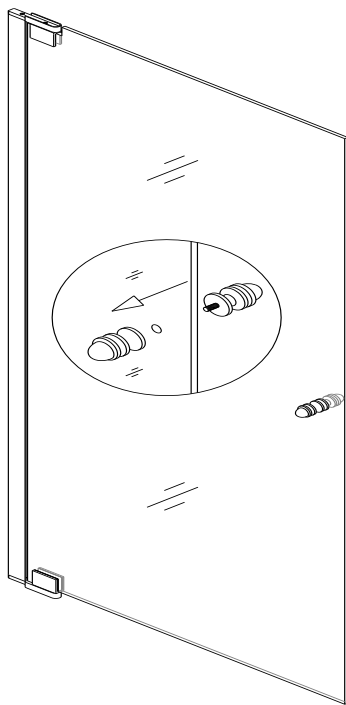

Fig. 5
6. Mount the **Handle (07)** on the glass door. See fig. 5 for details.